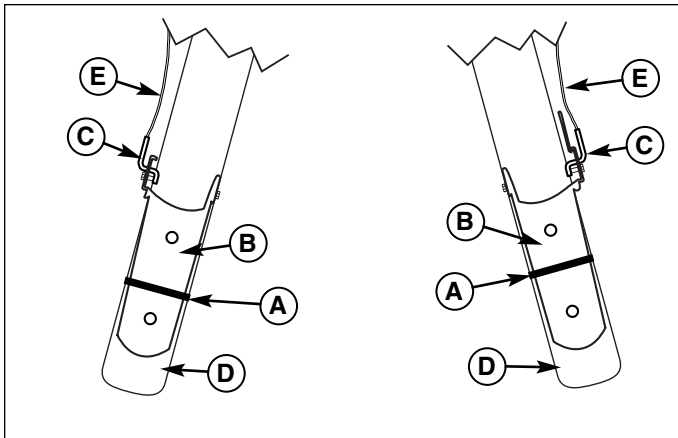

Figure 6. Control Levers (Tube Handle Models)
On models with control lever cables need to be checked. Remove wire ties or cardboard tubes (A, Figure 6) that secure the control levers (B) to the handles (D). Make sure that the “Z” bend ends (C) of the control cables (E) are secured in the holes on the control levers (B) as shown. Check that the cables (E) are not kinked and have freedom of movement.